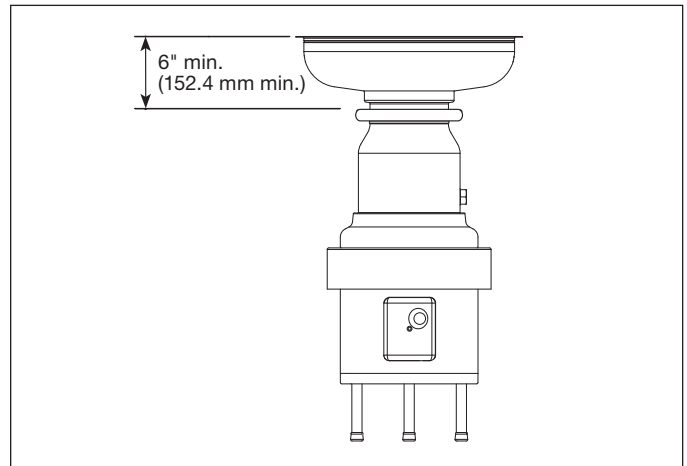

Figure 5.
- For safe operation, The minimum required distance from the table top or trough to the mounting flange is 6 inches for standard body disposers (as specified by UL). See Figure 5.